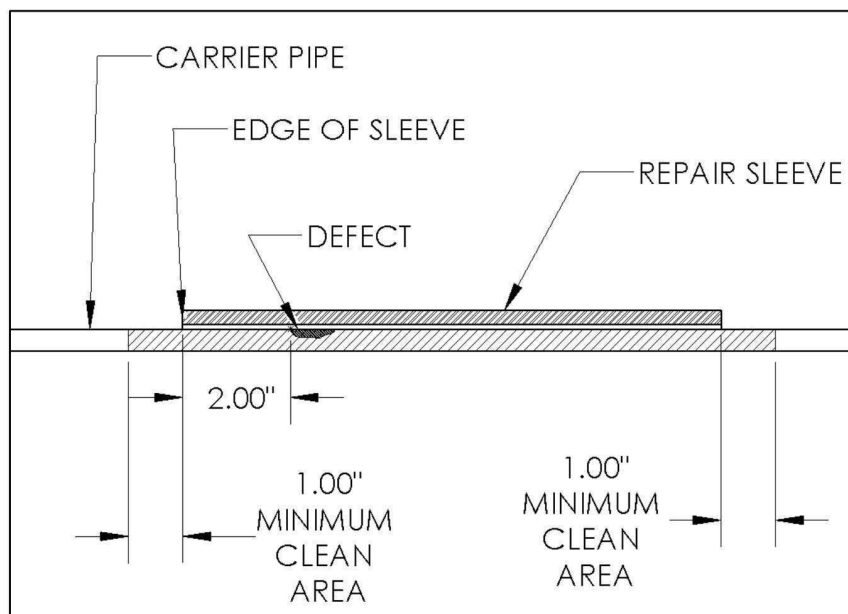
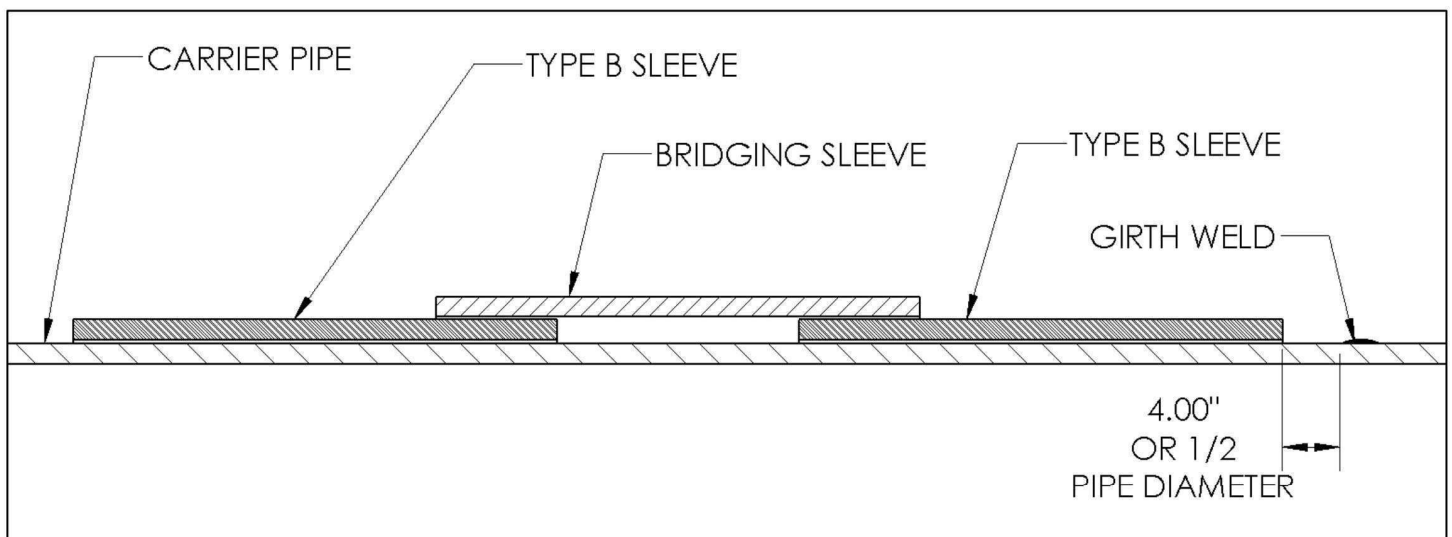

Figure 3
Figure 9
1. Identify and size the location of the Sole+Mate position on the carrier pipe. The ends of the sleeve must extend past the edge of the defect for a minimum of 2" (50mm) as shown in Figure 3. When multiple Type B sleeves are used, the end of a Type B sleeve shall not be terminated within one-half of a pipe diameter or 4" inches (102mm) from a girth weld, whichever is greater (see Figure 9). The distance between two sleeves should be at least one pipe diameter. (see step 8 for options to extend the coverage length of a single Sole+Mate.)
- b. Sole+Mates can be joined together by welding a bridging sleeve across sleeves as shown in Figure 9.